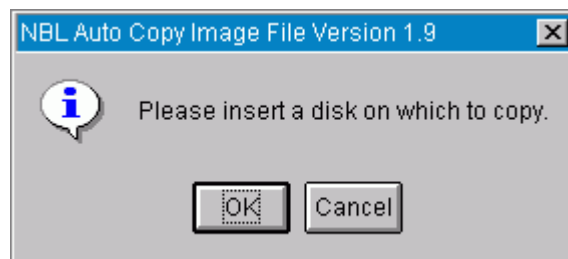
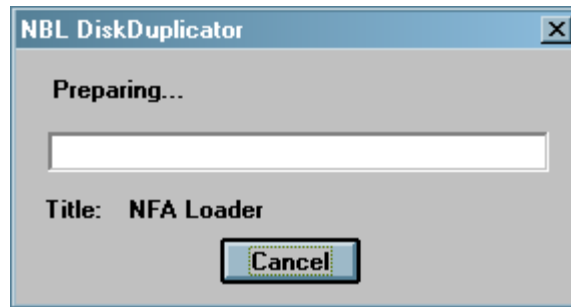

Figure 3
Figure 4
3. Insert the floppy diskette labeled "NFA Loader" into the disk drive and click "OK". If you insert disk 1 in the first 10 seconds, **Figure 3** will not be displayed and automatically get replaced with **Figure 4**.